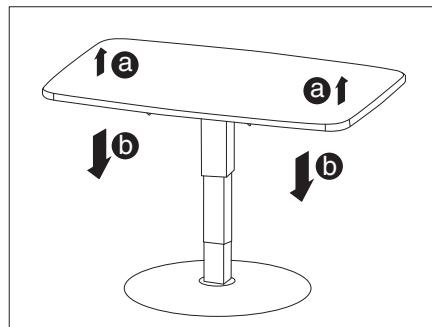

Fig. 56 Lift-off table
- Lift up the tabletop briefly (Fig. 56,a) and then press down (Fig. 56,b), until the desired height is reached.